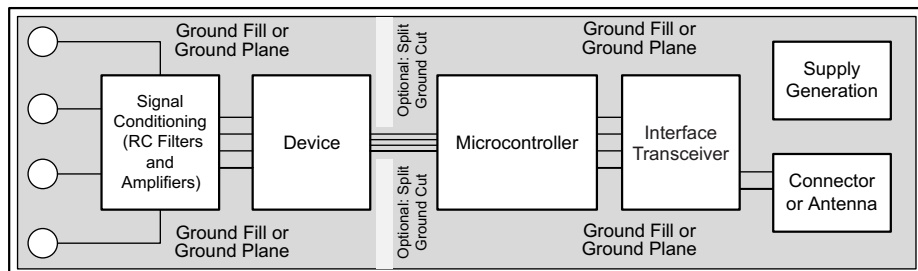

Figure 108. System Component Placement
Employing best design practices is recommended when laying out a printed-circuit board (PCB) for both analog and digital components. This recommendation generally means that the layout separates analog components [such as ADCs, amplifiers, references, digital-to-analog converters (DACs), and analog MUXs] from digital components [such as microcontrollers, complex programmable logic devices (CPLDs), field-programmable gate arrays (FPGAs), radio frequency (RF) transceivers, universal serial bus (USB) transceivers, and switching regulators]. An example of good component placement is shown in Figure 108. Although Figure 108 provides a good example of component placement, the best placement for each application is unique to the geometries, components, and PCB fabrication capabilities employed. That is, there is no single layout that is perfect for every design and careful consideration must always be used when designing with any analog component.